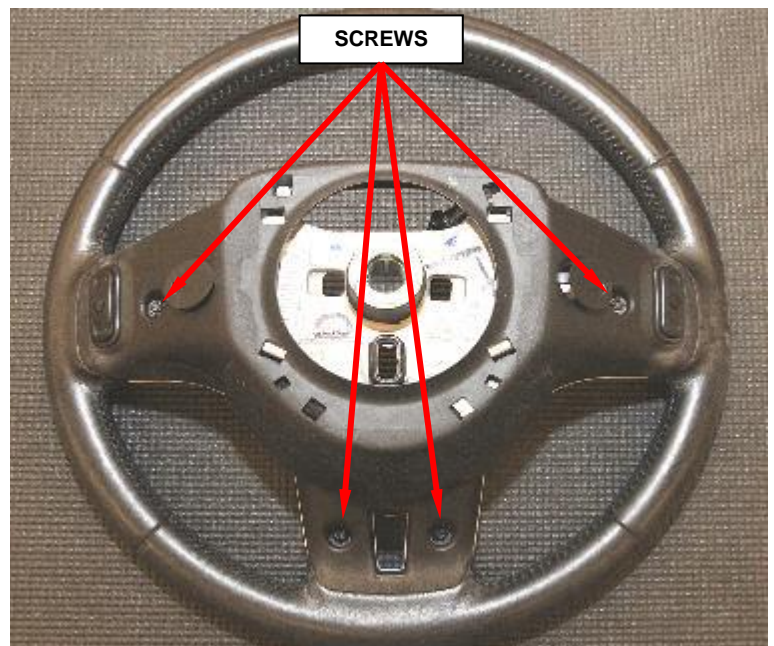

Figure 8 – Steering Wheel Back Cover Screws
4. Remove and save the four steering wheel back cover screws (Figure 8).